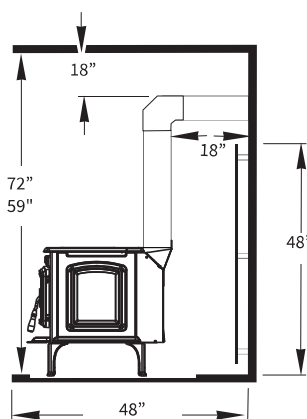

Figure 76. Alcove Ceiling and Double-wall Connector Clearances.
- Min. Ceiling Clearance from hearth Fig. 76.